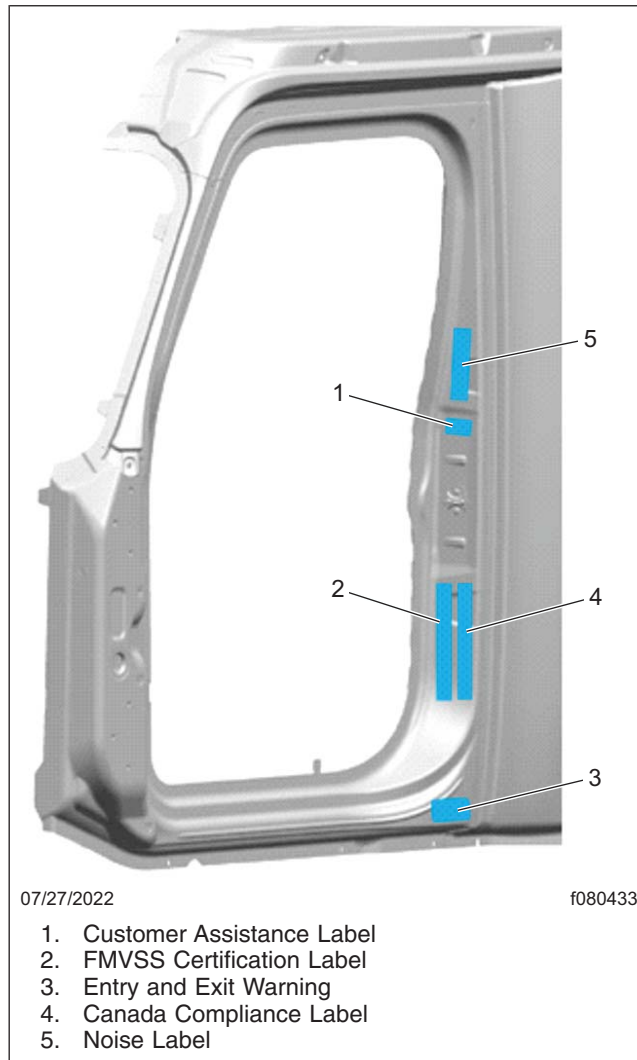

Fig. 7, Approximate Component Label Location
- Open the driver-side door, and locate the Federal Motor Vehicle Safety Standard (FMVSS) certification label, shown in Fig. 6, attached to the B-pillar. See Fig. 7.